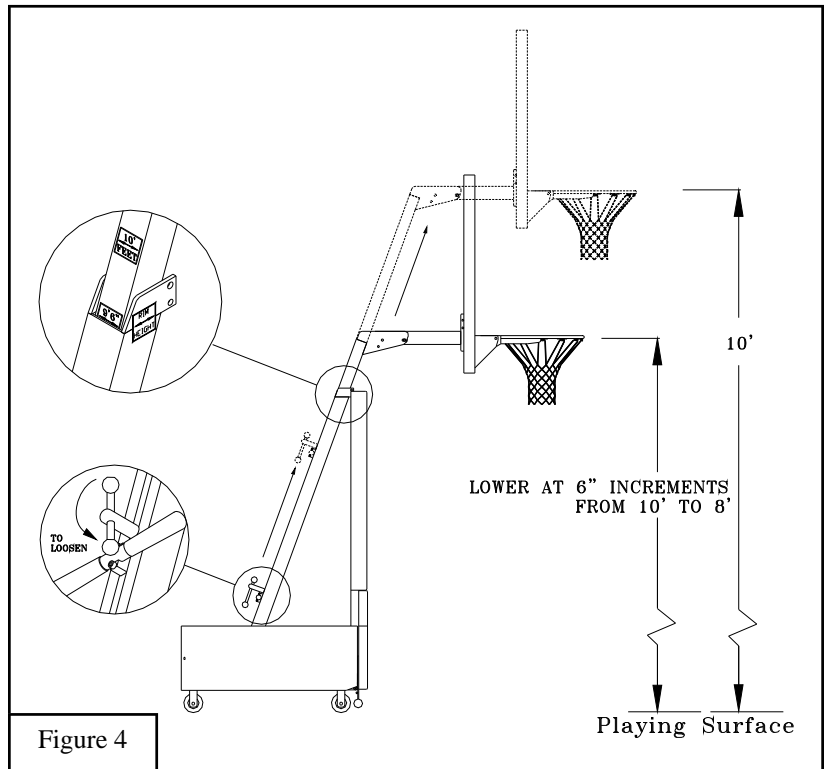

Figure 4
8. To adjust the height of the rim loosen the telescoping lock bolt, then loosen the lock handle while gripping the adjustment handles. Adjust the pole upwards until the top of the goal measures 10' from the playing surface. Lock the pole at that height and apply the 10' *Height Indicator Label (C)* to the plated inner tube. Line up the arrows on the 10' label to the already attached "Rim Height Indicator" label. Adjust the pole downward so that the goal measures 9' 6" from the playing surface. Lock the pole and apply the appropriate height indicator label to the plated inner tube. Continue to lower the goal at 6" increments, being careful to lock the pole each time, and apply the appropriate height labels until the height of 8' from playing surface is reached. See Figure 4